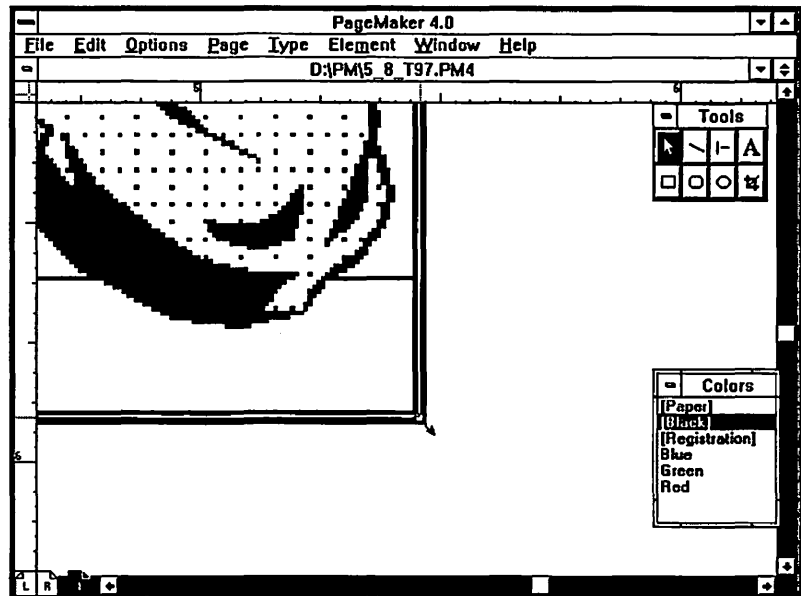

FIGURE 3-31 *Wherever a graphic overlaps a line in PageMaker, the line is reversed, making it easy to position a keyline trap around a photograph.*
2. For a precision fit, use a 400-percent view and adjust the box so that its four inner edges extend onto the photograph. In version 4.0 of PageMaker, this is easier than in earlier versions because the rule is reversed where it overlaps another object (Figure 3-31). The reversed area is easy to see on screen and serves as a good indicator that you're on the mark.